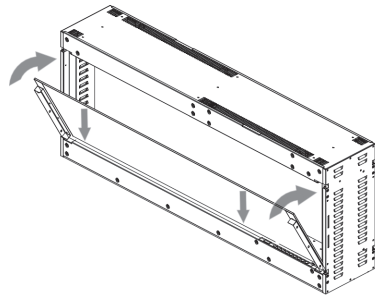

Fig. 1
- Have 2 people lift the glass up. Place the bottom side of the glass into the appliance and then pivot it until the glass is touching the side panel (**Fig. 1**).